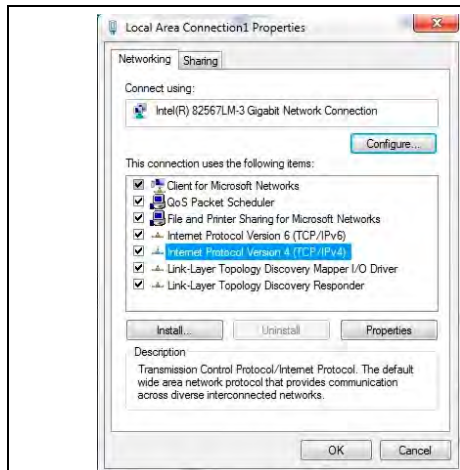

Figure 3-25 Connection Properties
- d. Select Internet Protocol Version 4 \(TCP/IPv4\) from the Properties screen, Figure 3-25